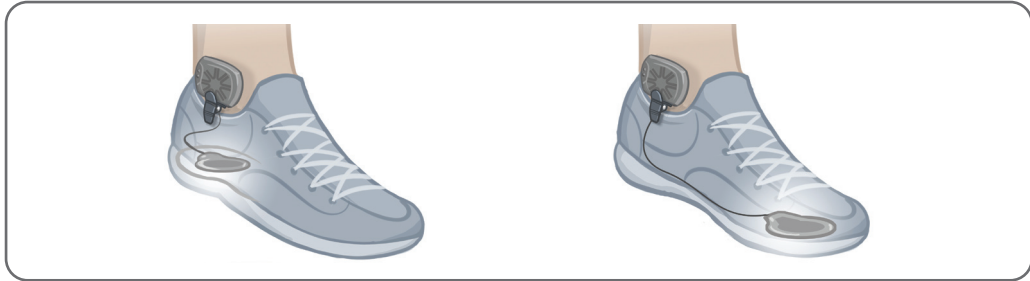

Figure 6-19: Final Position of the Foot Sensor Attached to the Shoe
4. Clamp the Foot Sensor transmitter on to the inner rim of the shoe. Face the starburst logo on the transmitter away from the ankle. See Figure 6-19.
5. Cover the pressure sensor with the insole. Tuck any excess wire under the insole. See Figure 6-19.